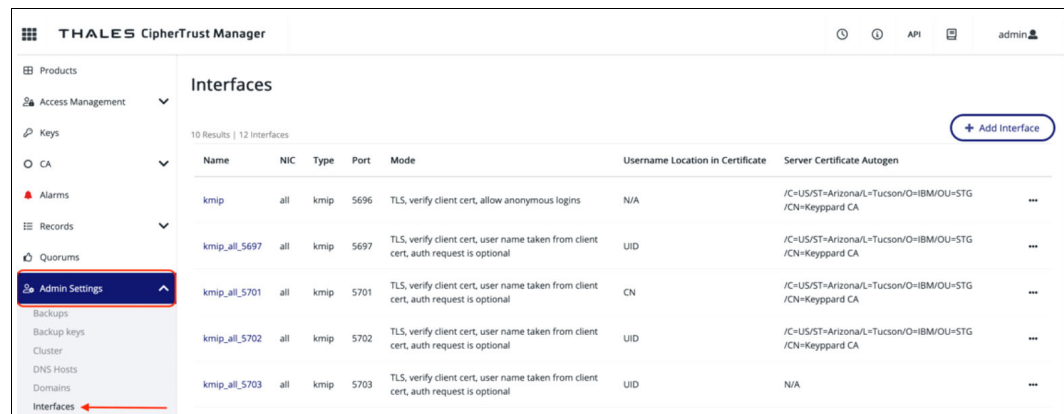

Figure J-25 KMIP interfaces
- a. Select **Admin Settings** → **Interfaces** (shown in Figure J-25).